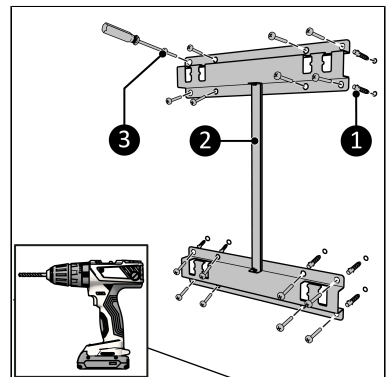

Figure 8.
3. Place wall plugs (Figure 8, pos 1).
4. Screw and tighten the wall bracket (Figure 8, pos. 2) to the wall with eight large screws using a Phillips screwdriver (Figure 8, pos. 3).